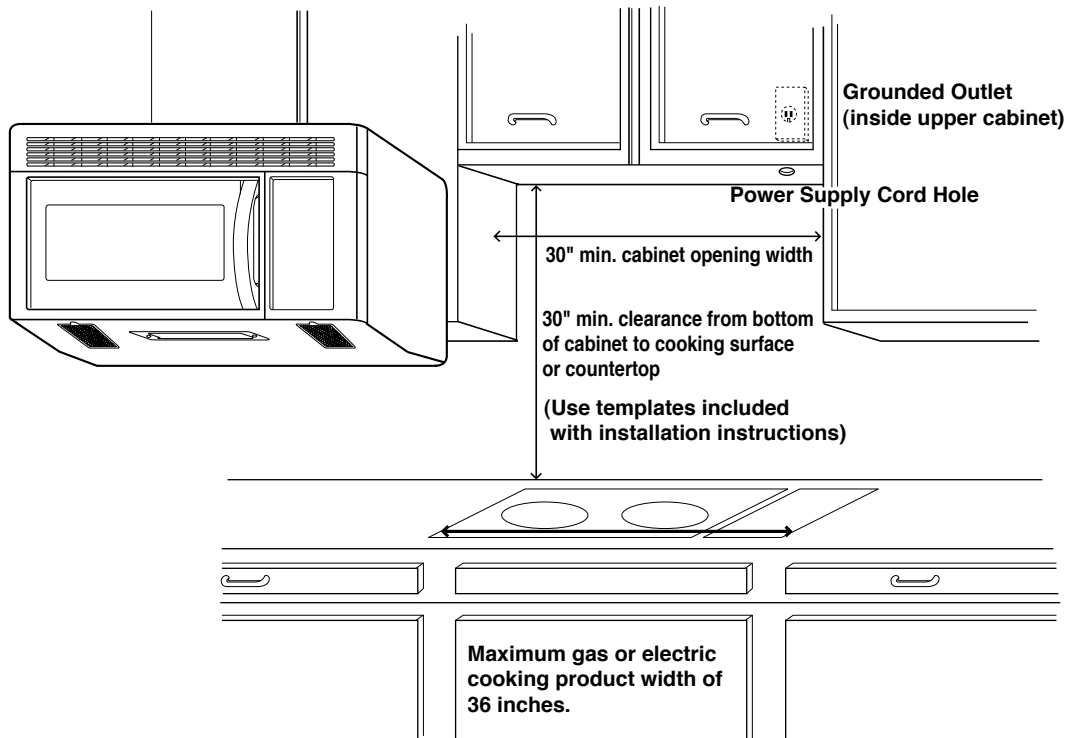

Figure 3
- BE SURE you have enough space. See Figure 3 below for minimum vertical and horizontal clearance.